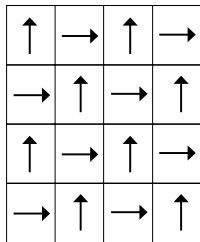
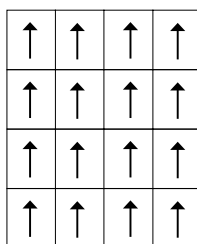

Figure 1
Figure 3
*Quarter-Turn* to form a checkered pattern (see figure 1).
*Monolithic* with all tiles laid in the same direction and with a continuous joint (see figure 3). Since the material is a woven fabric with natural variations in structure, slight differences in shade may be visible if the tiles are laid in the same direction. Take note of the direction of the arrow on the back of each tile, as per figures 1, 2 and 3.